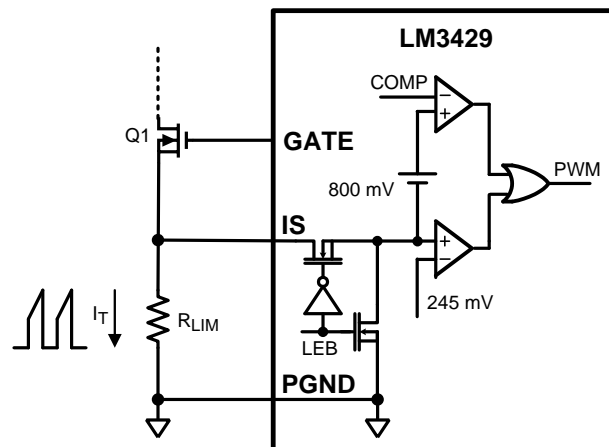

Figure 19. Current Sense / Current Limit Circuitry
The LM3429 achieves peak current mode control using a comparator that monitors the MosFET transistor current, comparing it with the COMP pin voltage as shown in Figure 19. Further, it incorporates a cycle-by-cycle over-current protection function. Current limit is accomplished by a redundant internal current sense comparator. If the voltage at the current sense comparator input (IS) exceeds 245 mV (typical), the on cycle is immediately terminated. The IS input pin has an internal N-channel MosFET which pulls it down at the conclusion of every cycle. The discharge device remains on an additional 250 ns (typical) after the beginning of a new cycle to blank the leading edge spike on the current sense signal. The leading edge blanking (LEB) determines the minimum achievable on-time ( $t_{ON-MIN}$ ).